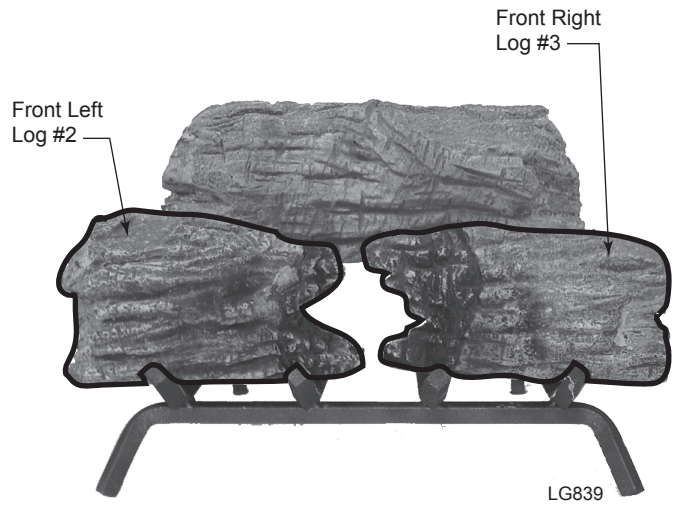

Figure 19 - Place Front Left and Right Logs on Grate
3. Place front left log #2 on the front of the grate and to the left. *Figure 19*
4. Place front right log #3 on the front of the grate and to the right. *Figure 19*